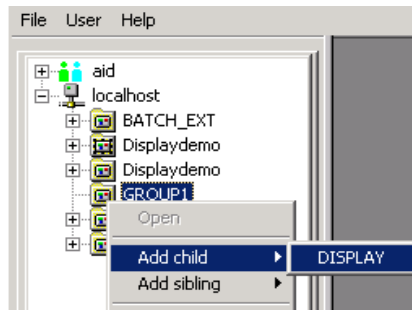

Figure 25. Adding a New Display to the Group
- a. Select GROUP1 in the Object Browser. Then right click on GROUP1, and choose **Add child > DISPLAY** from the context menu, Figure 25.